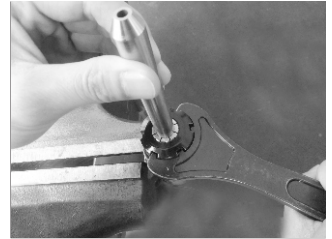

Fig.2-6
6. Clamp the tubing in a jaw vise, keeping the end to be threaded upwards and leaving enough length. (Fig. 2-6)